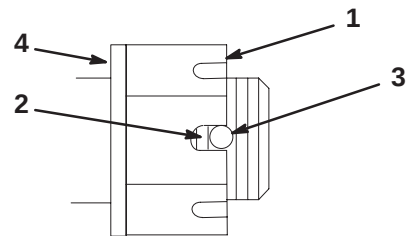

Figure 51
- Torque slotted nut to 125 ft-lbs (169.5 N•m) (Fig. 51).
- Check the distance from bottom of slot in nut to inside edge of hole. Two threads or less should be showing (Fig. 51).
- If more than two threads are showing remove nut and install washer between hub and nut (Fig. 51).
- Torque the slotted nut to 125 ft-lbs (169.5 N•m) (Fig. 51).
- Tighten nut until the next set of slots line up with the hole in the shaft (Fig. 51).